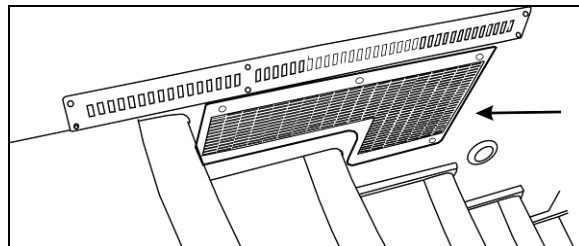
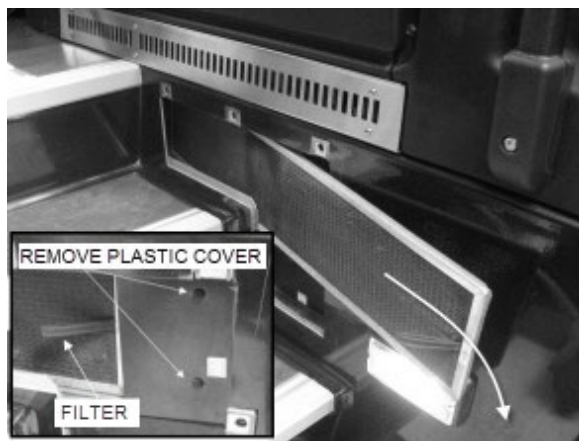

FIGURE 17: R.H CONSOLE AIR FILTER ACCESS GRILL (COACHES) 18505
FIGURE 18: REMOVING DRIVER'S SECTION AIR FILTERS
The driver's unit is located behind the R.H. console panel. To gain access to the air filter, unscrew the R.H. console's grill located in the entrance stepwell. Remove the plastic cover and slide out the recirculating air filter (FIGURE 18).
The driver's HVAC unit is located behind the dashboard's R.H. side panel. To gain access to the A/C filters, unscrew the grille located at the top entrance step (Figure 17). Unscrew the plastic cover and slide out the recirculating air filter (FIGURE 18). Doing so will give you access to the fresh air filter (see item 18, Figure 79).